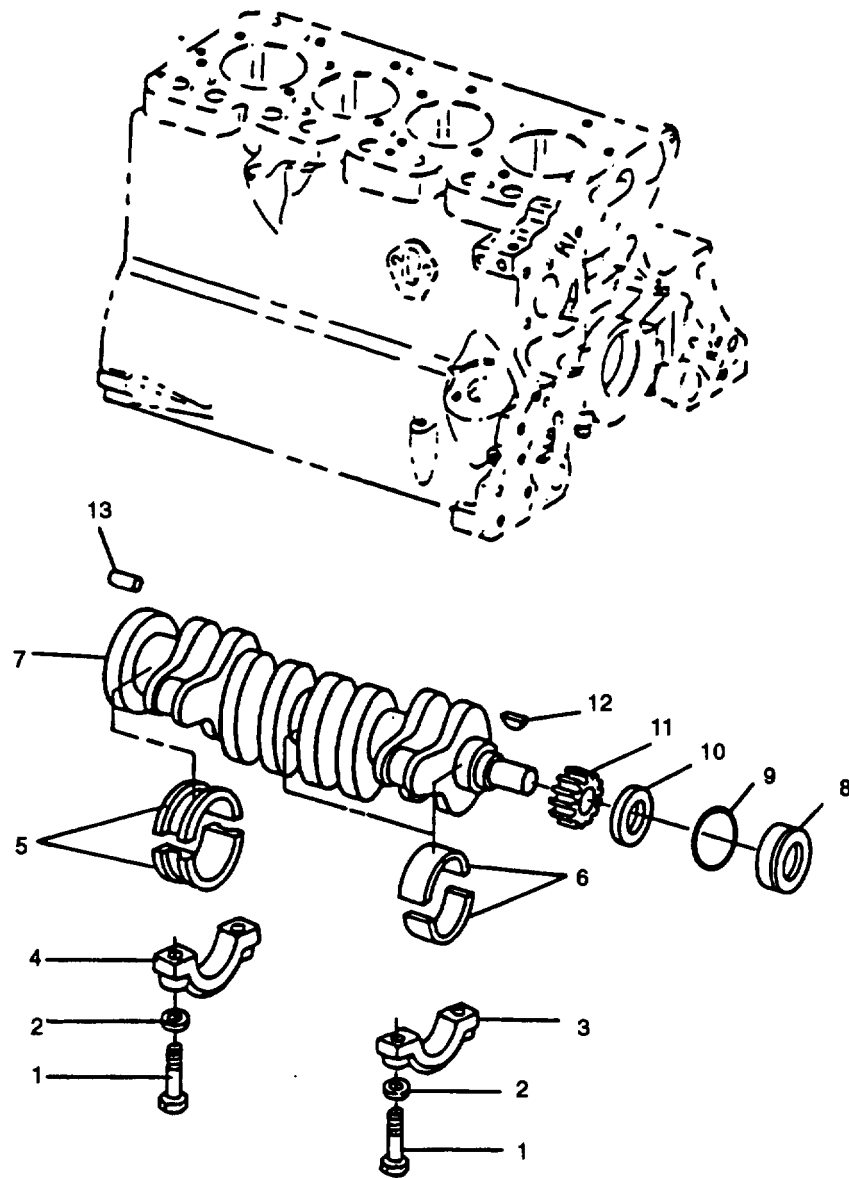

FIGURE 3-118. Crankshaft and Main Bearings
- d. If sleeve bearings (4 and 12) were removed, use an arbor press, driver (JD-252), and handle (10914188) to install sleeve bearing (4) in idler gear (3) and sleeve bearing (12) in idler gear (11).
- e. Install lower idler gear (11), thrust washer (10), and nut (8).
- f. Time camshaft and install upper idler gear (3), thrust washer (2), and capscrew (1), refer to paragraph 3-40.3.
- g. Install dirt deflector (10, FIGURE 3-118), new preformed packing (9), and crankshaft sleeve bearing (8).
- h. Check main bearing caps (3 and 4, FIGURE 3-118) for arrows (cast in bearing cap) and numbers stamped on cap and oil pan rail. Arrow points toward camshaft side of engine. If there are no numbers, stamp corresponding numbers on cap and oil pan rail. This will assure correct placement location of main bearing caps during reassembly.
- i. Remove capscrews (1) and washers (2) securing main bearing caps (3 and 4); remove main bearing caps.
- a. Install gear (11, FIGURE 3-118) on crankshaft as follows: